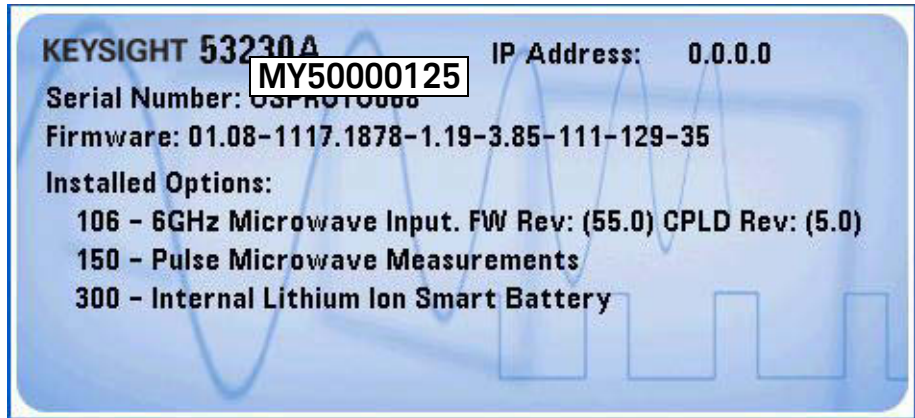

Figure 2-4 Information screen
- An information screen (Figure 2-4) is displayed that contains the following items: